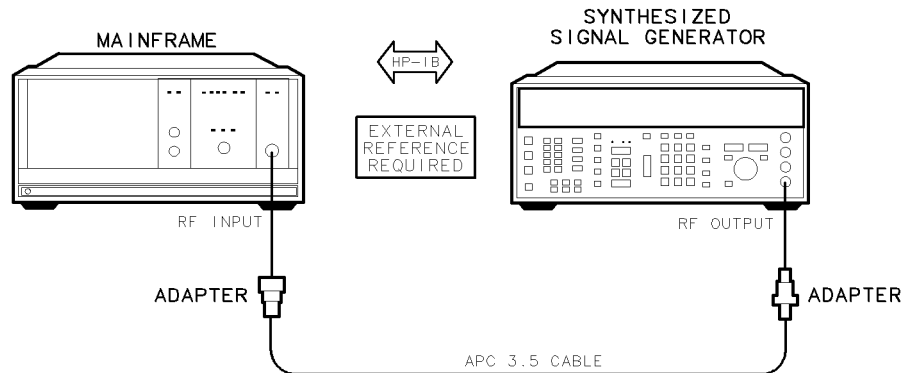

Figure 7-16. LO Frequency Accuracy (Span ≤ 10 MHz) Test Setup
1. Connect the HP 8663A synthesized signal generator’s RF OUTPUT to the DUT’s RF INPUT using the adapters, as shown in Figure 7-16. Refer to Figure 7-1 for system rear panel connections.